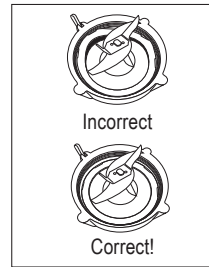

Figure 4
4. Ensure the locking sealing ring is fully and evenly tucked in place and holding the blade assembly to the threaded jar bottom. For correct assembly see (Figure 4).